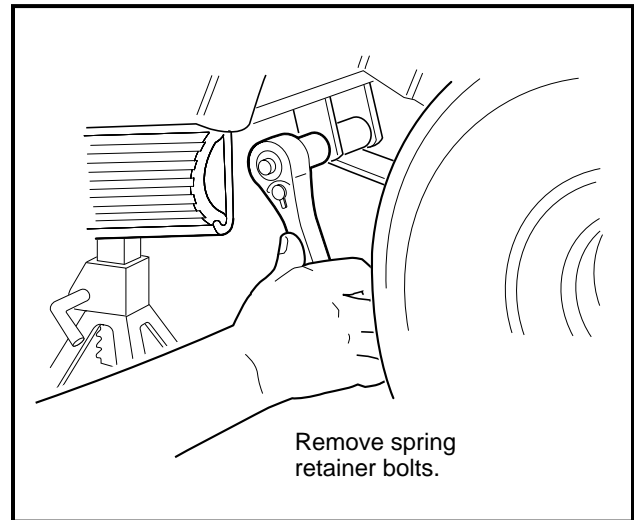

Figure 16-23 Spring Retainer Bolts
8. Remove the bolts securing the leaf springs to their front mounts (**Figure 16-23, Page 16-11**).